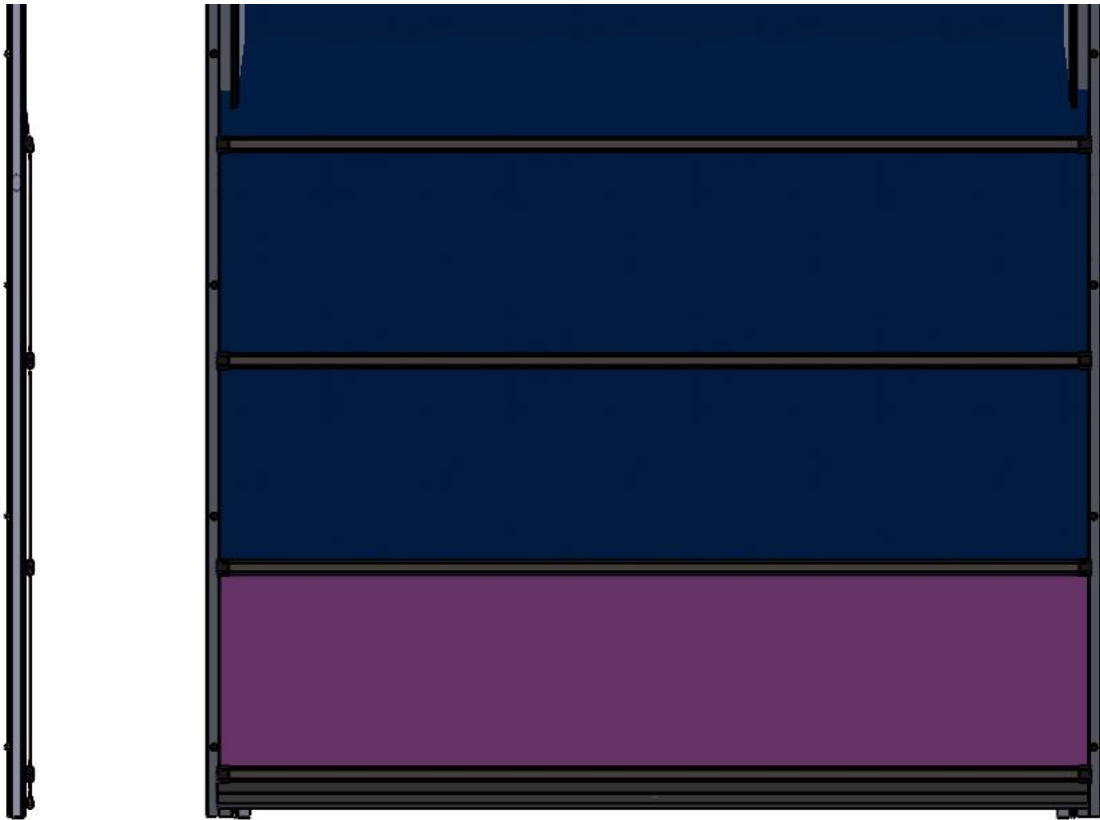

Figure 2 CENTER DOOR ON FACE OF TRACK
4. Re-center the Door on the face of the Tracks. (Figure 2 CENTER DOOR ON FACE OF TRACK)